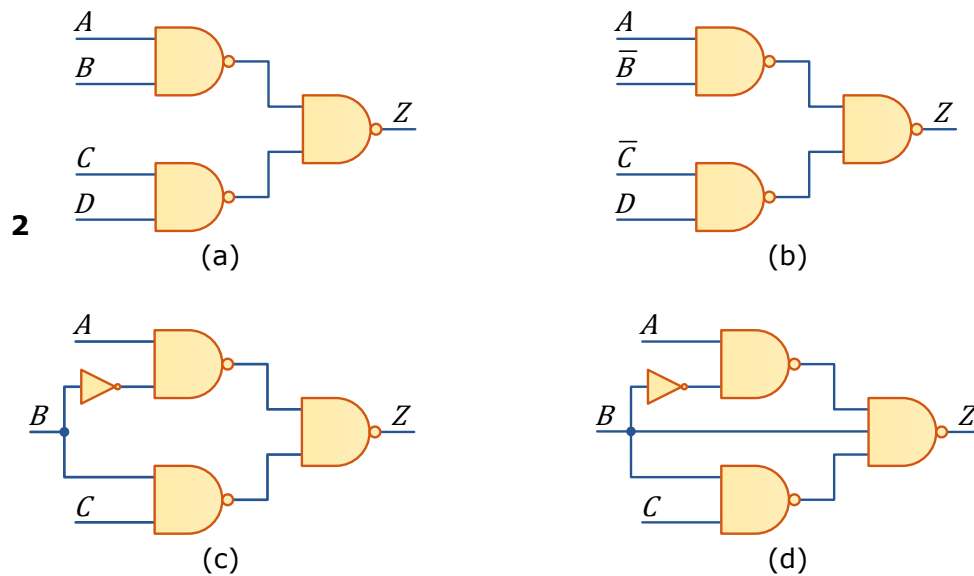

Figure 8.2: Logic circuits for Pre-lab 8.
- 1 Obtain the Boolean expressions and write the Truth Tables for the digital logic circuits shown in Figure 8.2.